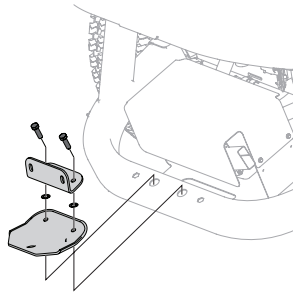

Figure 4
3. Install bracket assembly to the tractor's lower frame with two capscrews (710-0376). See Figure 4.